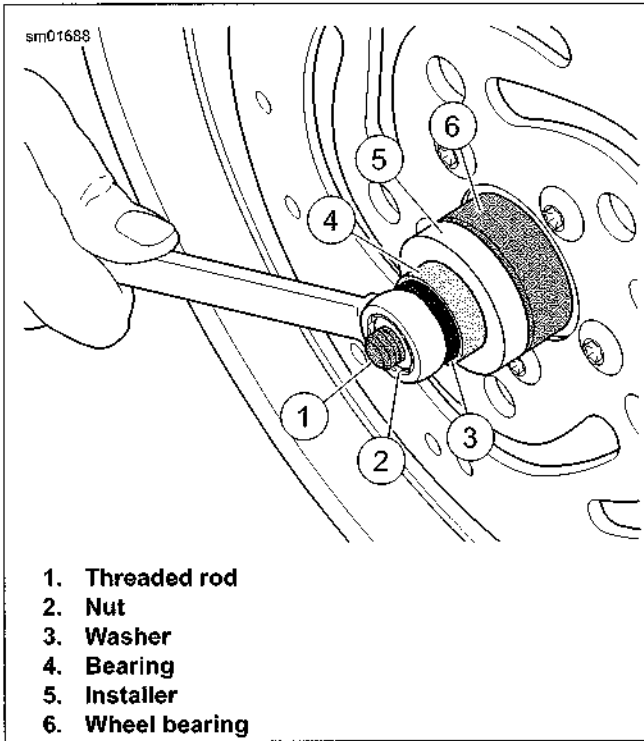

Figure 2-24. Installing Bearing
- See Figure 2-24. Place **new** bearing on rod (1) with lettered side facing out.
- Assemble installer (5), bearing (4), washer (3) and nut (2) over rod.